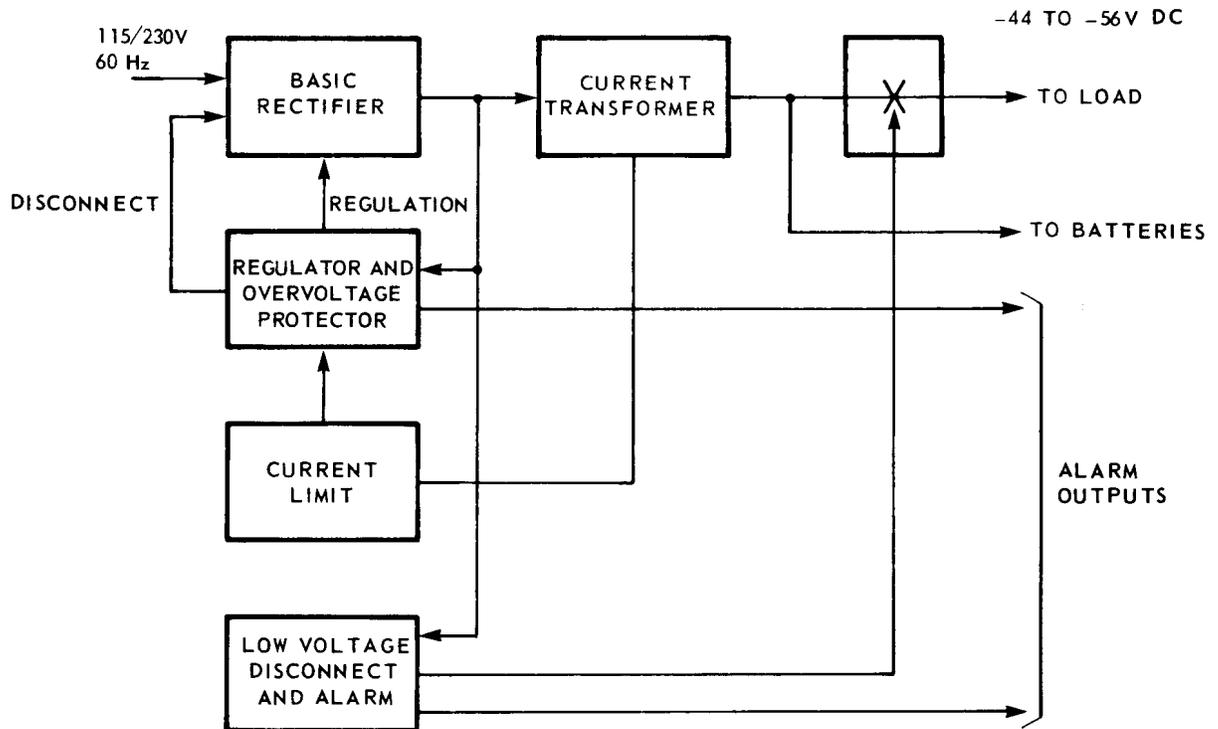

Fig. 2 — J2357E Rectifier Block Diagram
3.01 The J2357E Rectifier (Fig. 2) consists of: